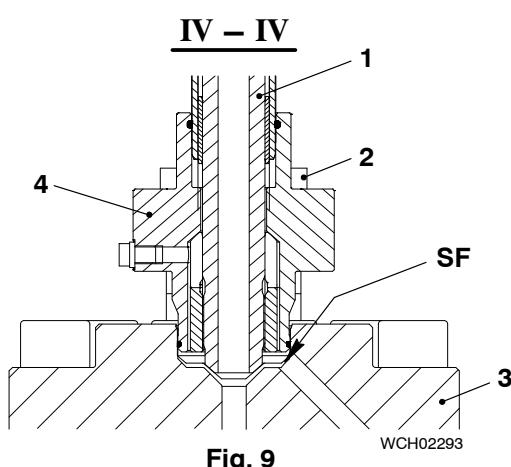

Fig. 9
12) Carefully remove the HP fuel pipe (4).
13) Apply protection to the sealing faces (SF) to prevent damage and contamination.
14) Remove the four screws (2, Fig. 9) from the flange (4).